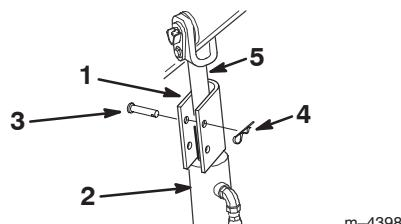

Figure 10
4. Position a loader arm cylinder lock over each lift cylinder rod (Fig. 10).
5. Secure each loader arm cylinder lock with a clevis pin and cotter pin (Fig. 10).